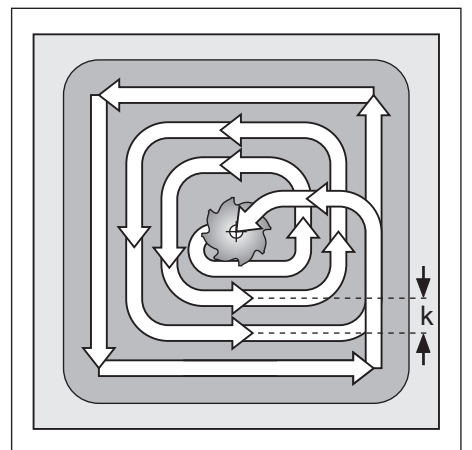

Fig. 8.9: Tool path for roughing out
- the tool subsequently follows the programmed path at the specified feed rate (see Fig. 8.9) .